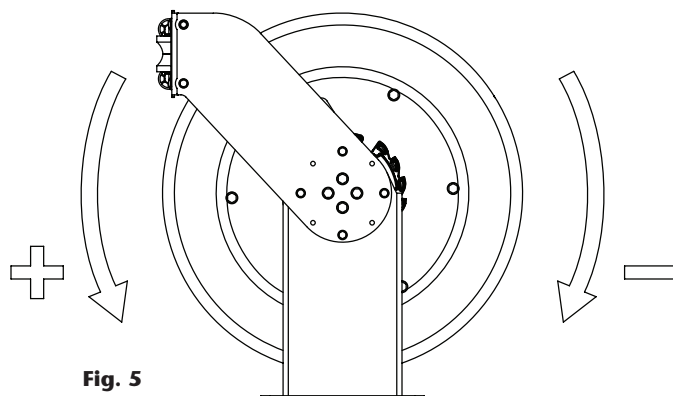

Fig. 5
3. Once the hose is completely wound around the spool (the power spring still will be with no tension), apply the pre-tension to the power spring by turning the spool the number or turns stated in the table depending on the hose length (pag. 5), turning in positively direction as shown in (Fig. 5). Do not apply more tension than stated, as the power spring could be damaged.
6. Apply the pre-tension to the power spring by turning the spool the number of turns indicated below, depending on the power spring version and the hose length (Fig. 5):